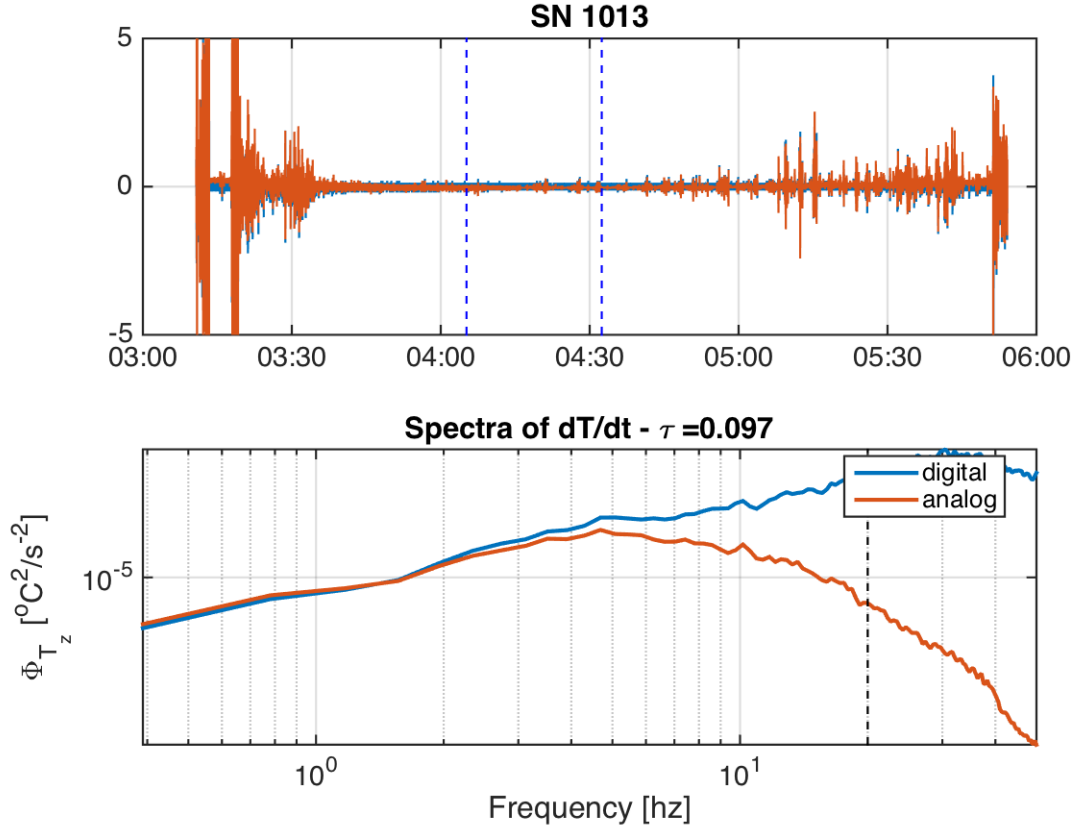

Figure 5: dT/dt spectra for analog (TP) and digital derivatives. Spectra levels should match; if not time-constant may be wrong.
- `cast_001_w_dTdtSpectraCheck` (Figure 5). This compares the analog dT/dt (T1P) to the differentiated T signal. The spectral amplitudes should agree up to a certain frequency where the digital dT/dt becomes dominated by noise. If the spectra below the noise level don't match, the time-constant used in calibration might need to be modified.